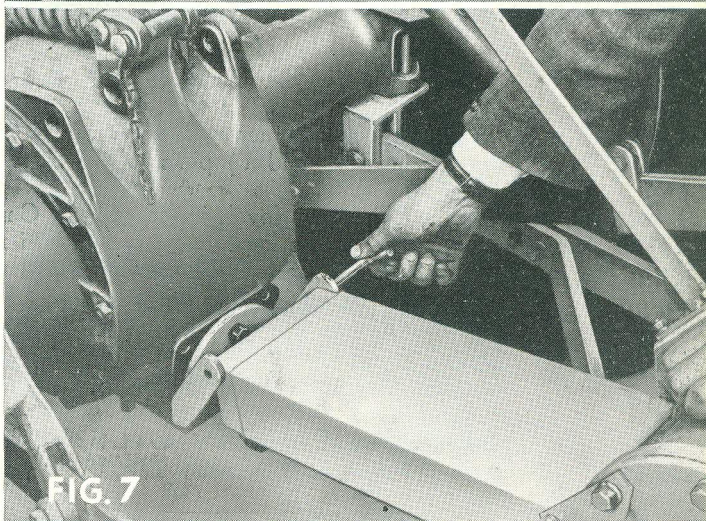

FIG. 7
6. Adjust the safety cover and secure with the pin and clip (Fig. 7).